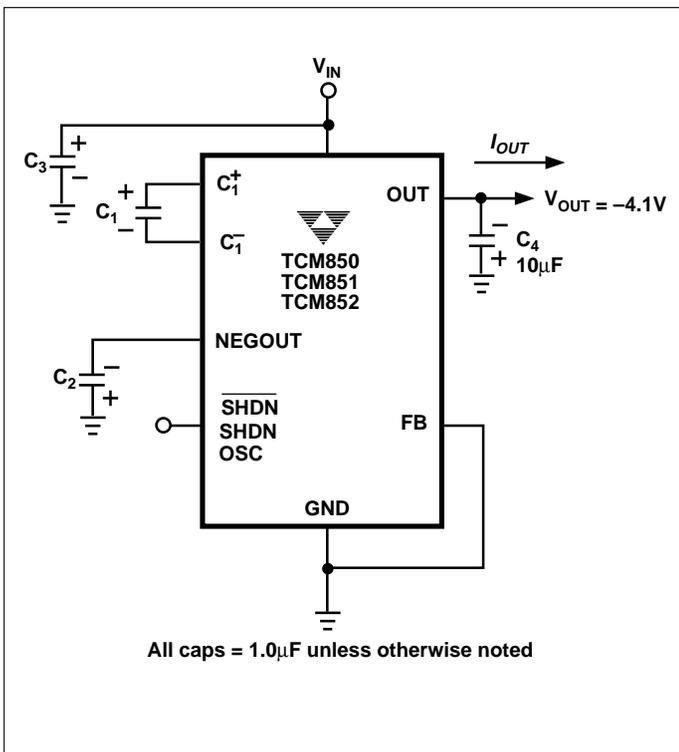
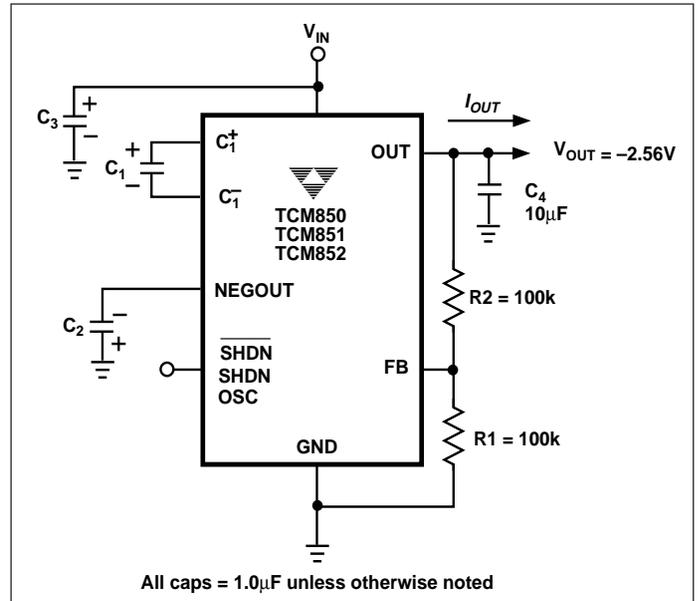

Figure 3. TCM850/851/852 Standard Application
Figure 4. TCM850/851/852 Adjustable Application
3. $I_{OUT} = 0\text{mA}$ or 5mA. Reference Figures 3 and 5.
The TCM850/1/2 operate in the fixed output voltage mode ($V_{OUT} = -4.1V$) when the FB input is grounded (Figure 3). The output voltage can be adjusted by connecting FB to the midpoint of a resistive voltage divider from OUT to GND (Figure 4). Care must be taken to allow a minimum of 1.0V across the linear regulator for proper regulation. The output voltage is calculated using the formula below (R_2 should be chosen to be between 100k Ω and 400k Ω):